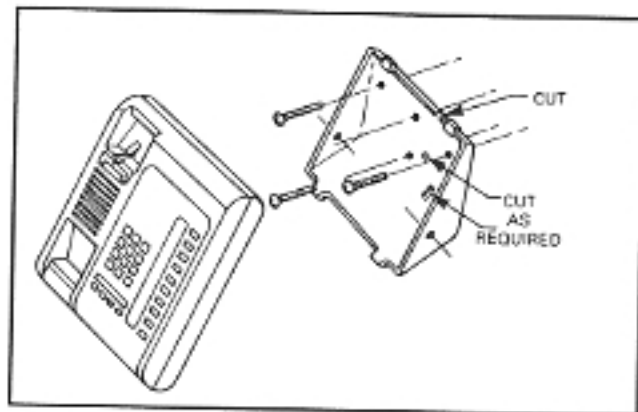

FIGURE 39
08.25 Refer to Figure 39, choose which of the knockouts are appropriate for the tail cord route, and then cut them.